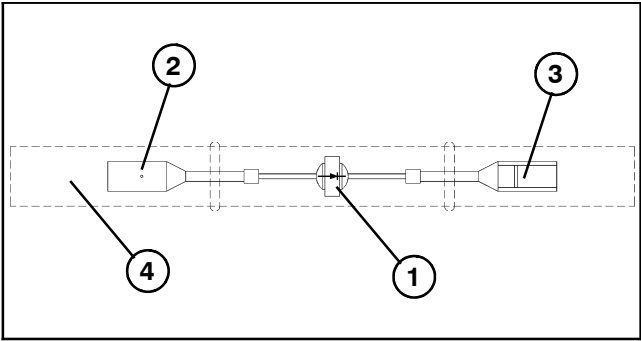

Figure 13
- 1. On early production machines, the diodes are located within the main wiring harness that lies under the hydraulic tank and control console (Fig. 13).
- 1. Diodes located within the main harness (Fig. 13):